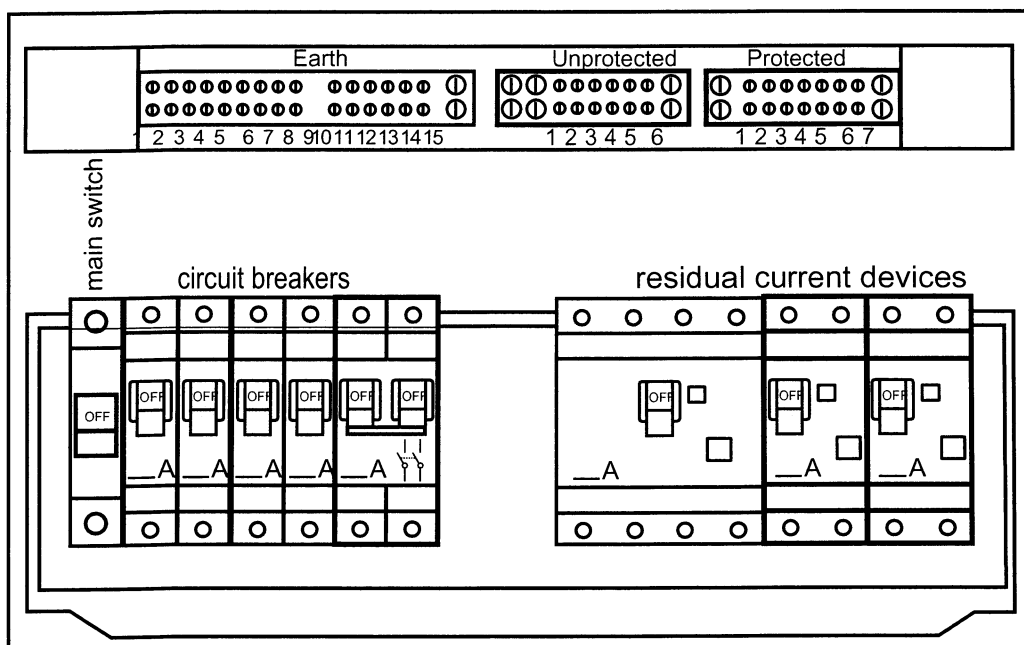

Figure 4.5 One 2-pole RCD for light circuit and one 4-pole RCD for power circuits
- The equipment shown in Figure 4.5 is for a switchboard in a domestic installation. Show on the diagram the necessary Active, Neutral and Earth connections for the following: